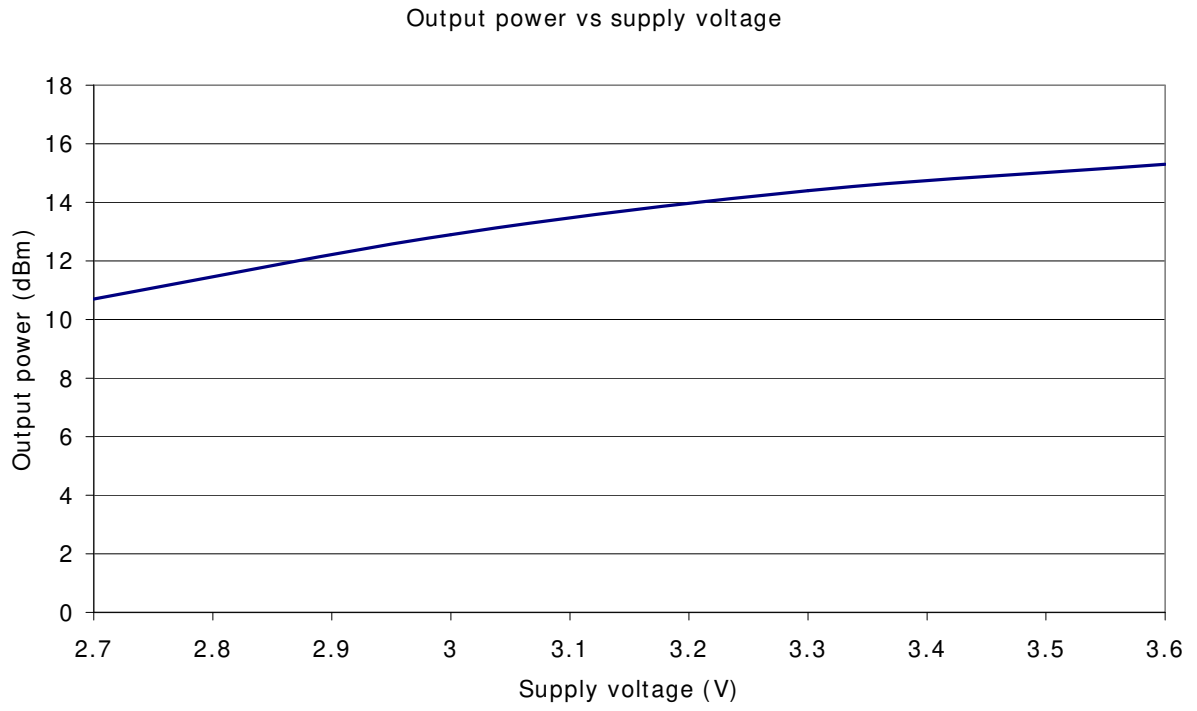

Figure 4: WT11 output power vs supply voltage
- 2) The supply voltage has an effect on the output power of WT11. See figure 4.